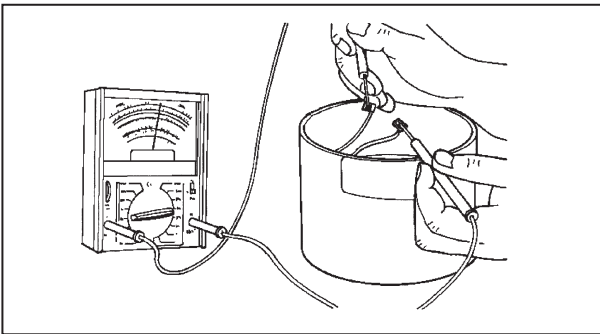

Figure 4.23
11. Test stator windings for open, grounded, or shorted conditions by connecting ohm meter leads to stator red and orange wires (see Figure 4.23). If meter does not move, replace stator.